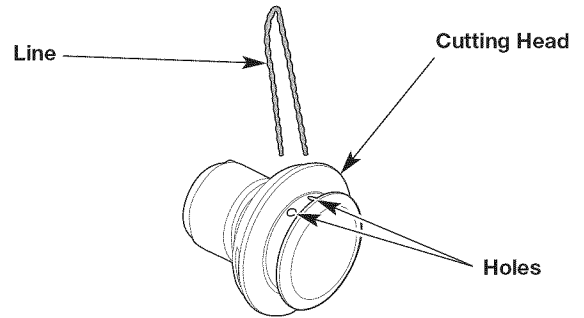
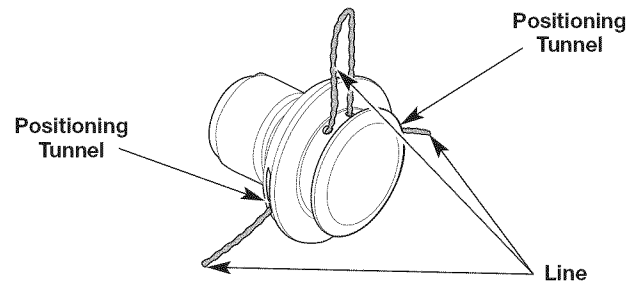

Fig. 16
Fig. 17
3. Insert the ends of the new trimming line into the holes in the cutting head (Fig. 16). Push the line through the holes until both ends protrude from the positioning tunnels (Fig. 17).